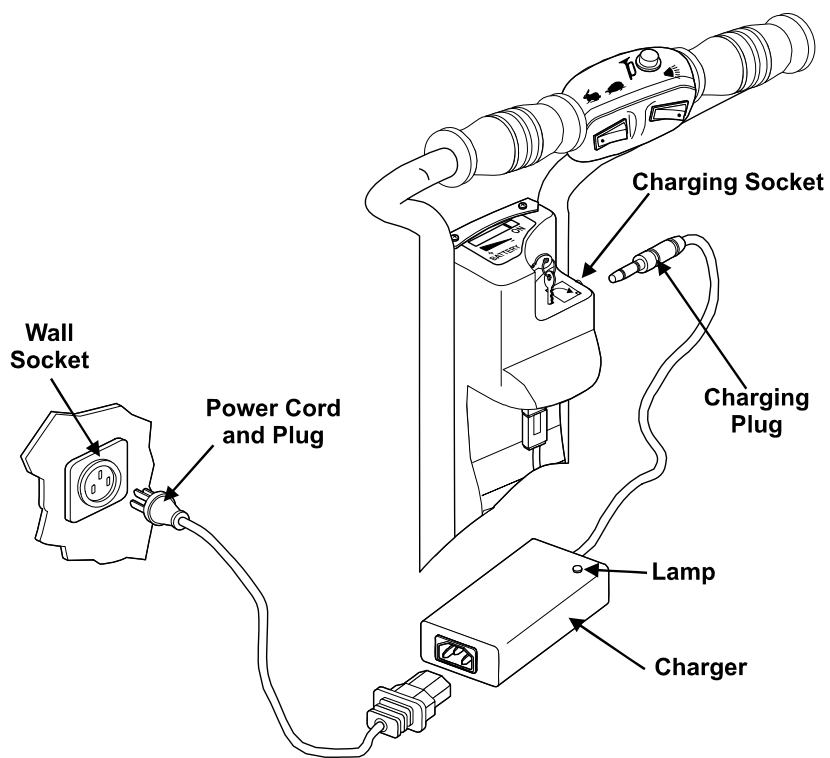

Figure 19.
5.1 Charging Batteries (See Fig. 19)